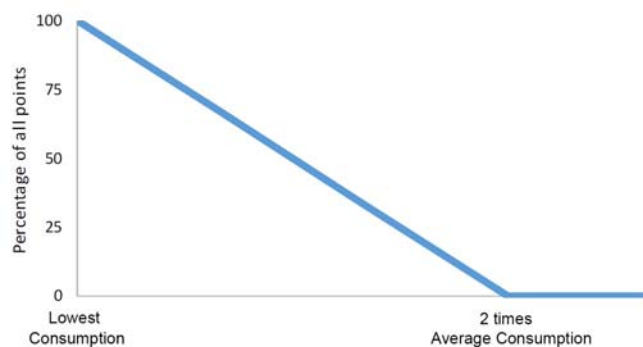

Figure 15: Water Balance sub contest point's distribution
- b) Reduced points are earned if the house's water consumption is between the lowest consumption and twice the houses' average consumption. Reduced point values will be scaled linearly, shown in Figure 15.